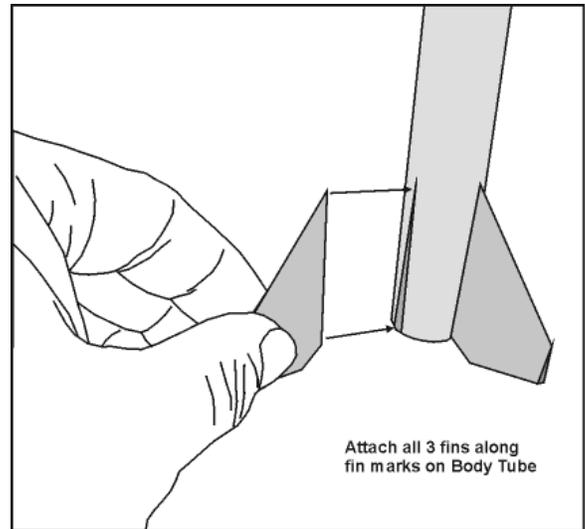

Figure 14
- As shown in **Figure 14**, apply a bead of glue to the root edge of one fin and attach to the Body Tube onto the triangular Fin Location marks. Allow to dry then repeat with the remaining two fins.